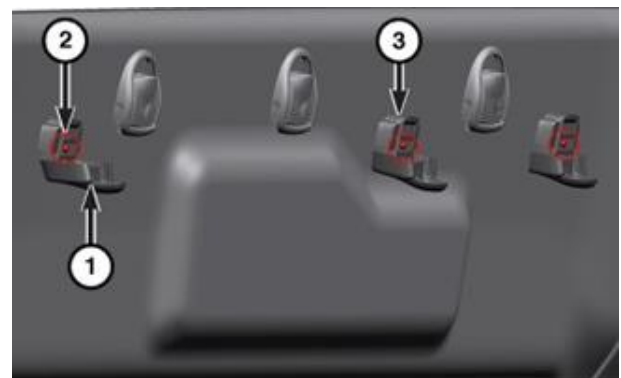

Figure 13 – Rear Cab Back Trim Panel
7. Using a trim stick or equivalent, release tabs and drop down the three hook covers (Figure 13).
8. Remove the three screws and remove the three hooks from the rear cab trim panel (Figure 13).
18. Install the three hooks to the rear cab trim panel and tighten the screws securely then close the hook covers (Figure 13).